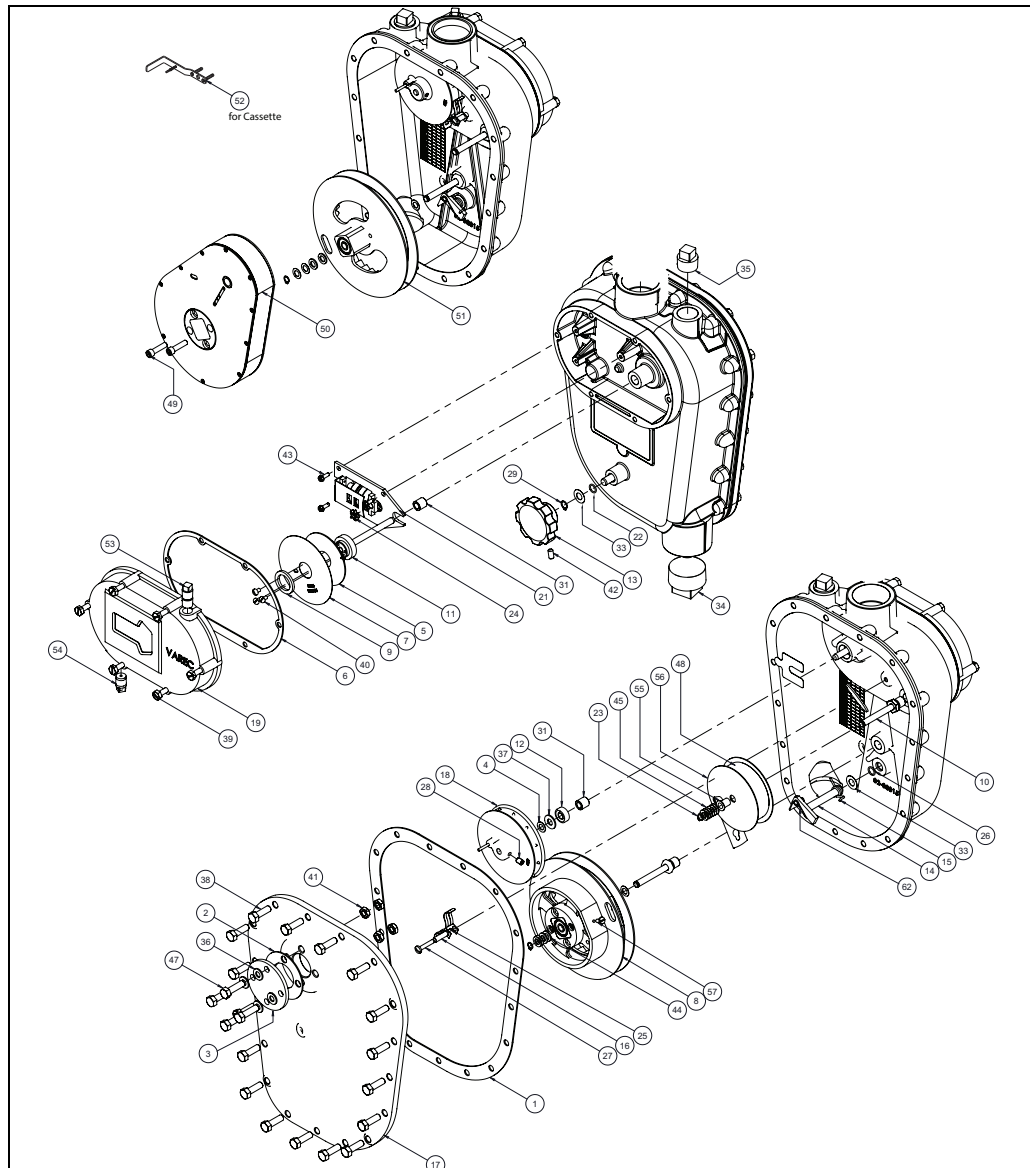
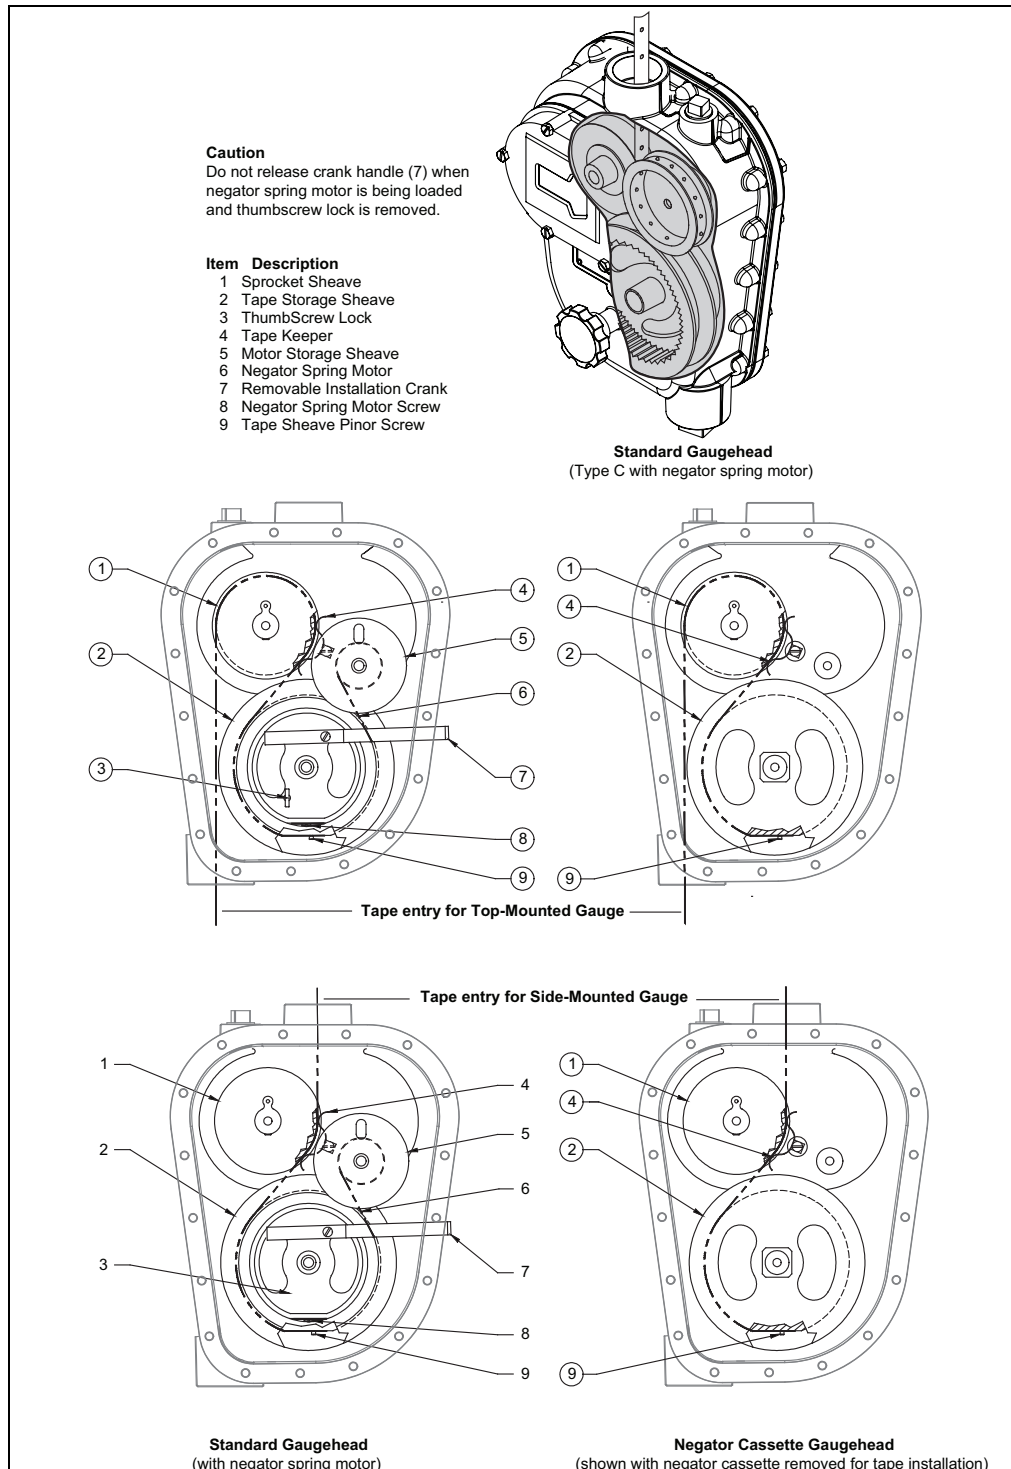

Figure 44: 2500 ATG (Type C) Gauge Head Spare Parts
Figure 45: Tape Routing
Figure 44 is key to understanding the disassembly/reassembly procedure. The small numbers in parentheses (for example, (12)), refer to the item numbers in this figure. References in the following procedures are directed to this figure, unless otherwise indicated.
13. Unwind the motor spring onto the motor storage sheave (Figure 45).
Unless otherwise labeled, numbers in parentheses, (12) for example, refer to the item callout numbers on Figure 44 or Figure 45.